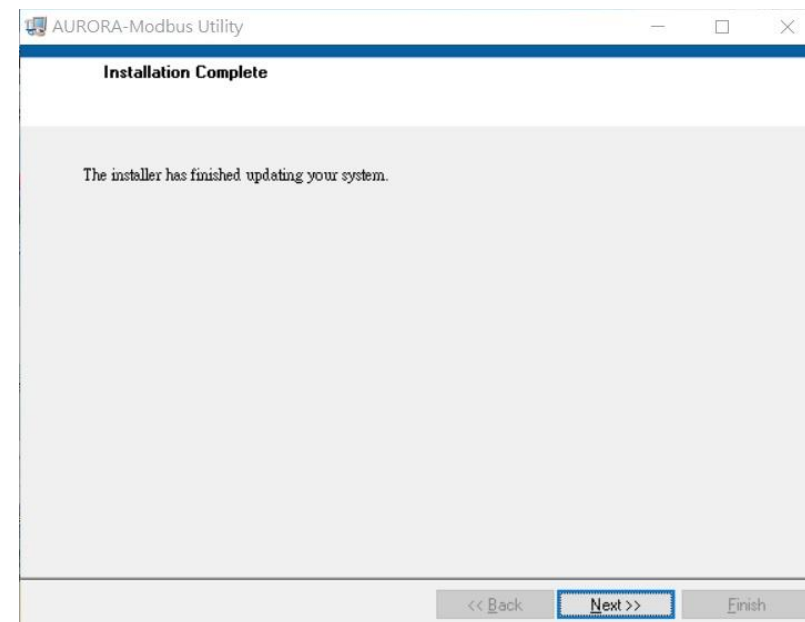

Figure1-11 Aurora Modbus Utility Install Finish
Step 6: Click Next upon installation completion (Figure1-11).